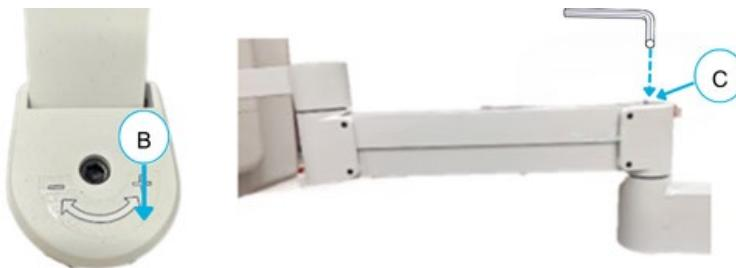

Figure 14-9: Monitor Support Arm Position
1. Locate the Monitor Arm Joint hex screw (see points **B** and **C** in **Figure 14-9**).
1. Locate the Monitor Arm Joint hex screw (see points **B** and **C** in Figure 14-9).